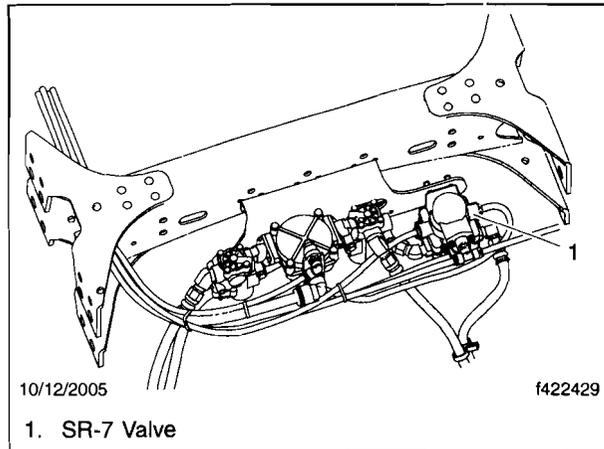

Fig. 2, SR-7 Spring Brake Modulating Valve Installation (typical)
2. Identify the positions of all air lines attached to the valve, and note the orientation of all fittings for installation on the new valve. See **Fig. 2** for a view of a typical installation, or access EZWiring for vehicle-specific plumbing diagrams.